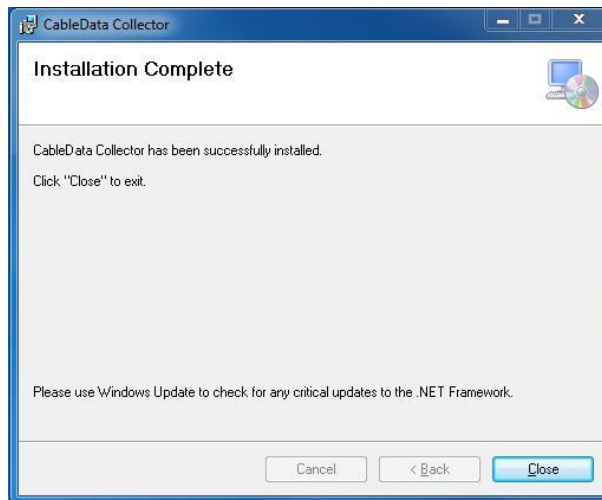

Figure 14 CDC Wizard Completion Screen
Once installation has completed the following message (Figure 14), click **Close** to exit.
- 2) Click the "..." button for Filter 1 (shown in Figure 14), navigate to where you have copied the file.